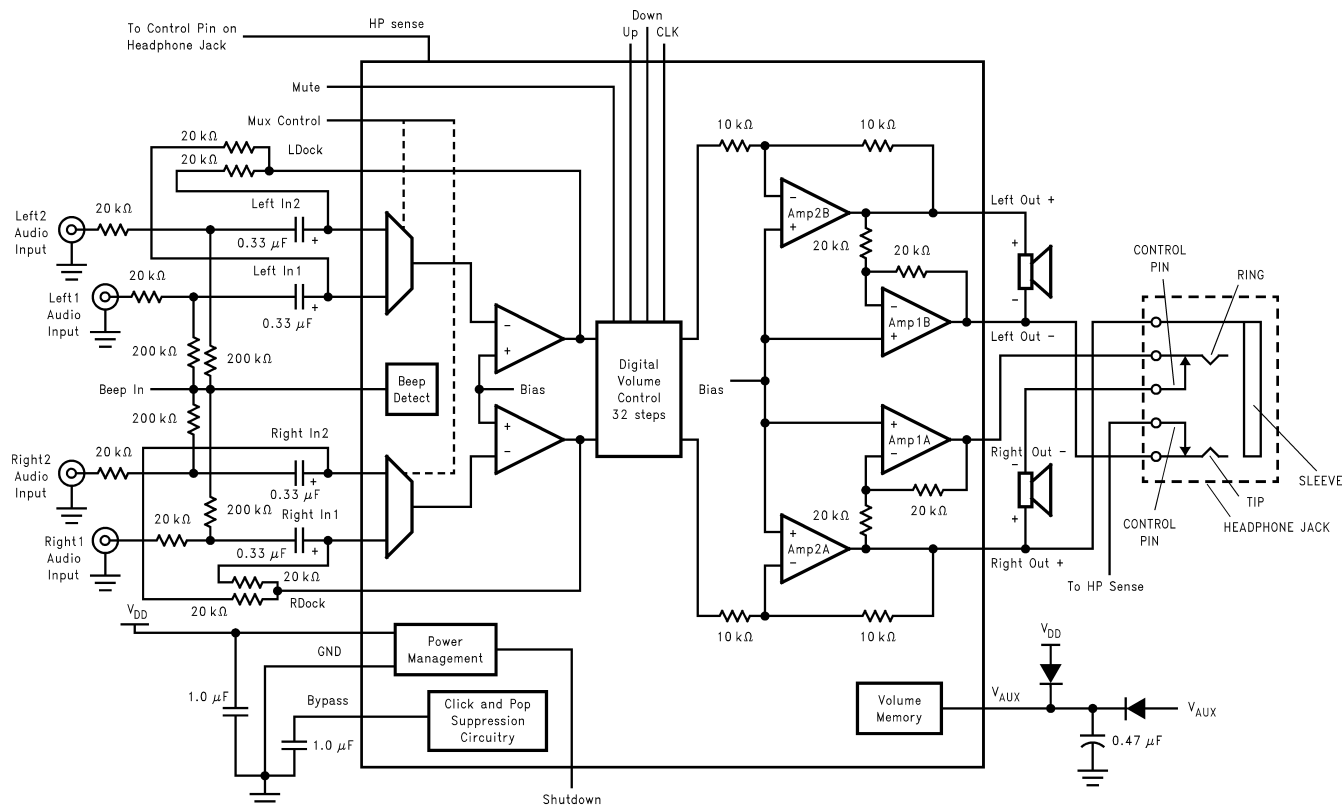

Figure 1. LM4840 Block Diagram
- (1) All voltages are measured with respect to the ground pins, unless otherwise specified. All specifications are tested using the typical application as shown in Figure 1.
- (2) *Absolute Maximum Ratings* indicate limits beyond which damage to the device may occur. *Operating Ratings* indicate conditions for which the device is functional, but do not ensure specific performance limits. *Electrical Characteristics* state DC and AC electrical specifications under particular test conditions which ensure specific performance limits. This assumes that the device is within the Operating Ratings. Specifications are not ensured for parameters where no limit is given, however, the typical value is a good indication of device performance.
- (3) Typicals are specified at $25^\circ C$ and represent the parametric norm.
- (4) Datasheet min/max specification limits are specified by design, test, or statistical analysis.
- (5) When driving 3Ω loads from a 5V supply the LM4840LQ and LM4840MH must be mounted to the circuit board and forced-air cooled.
- (6) When driving 4Ω loads from a 5V supply the LM4840LQ and LM4840MH must be mounted to the circuit board.